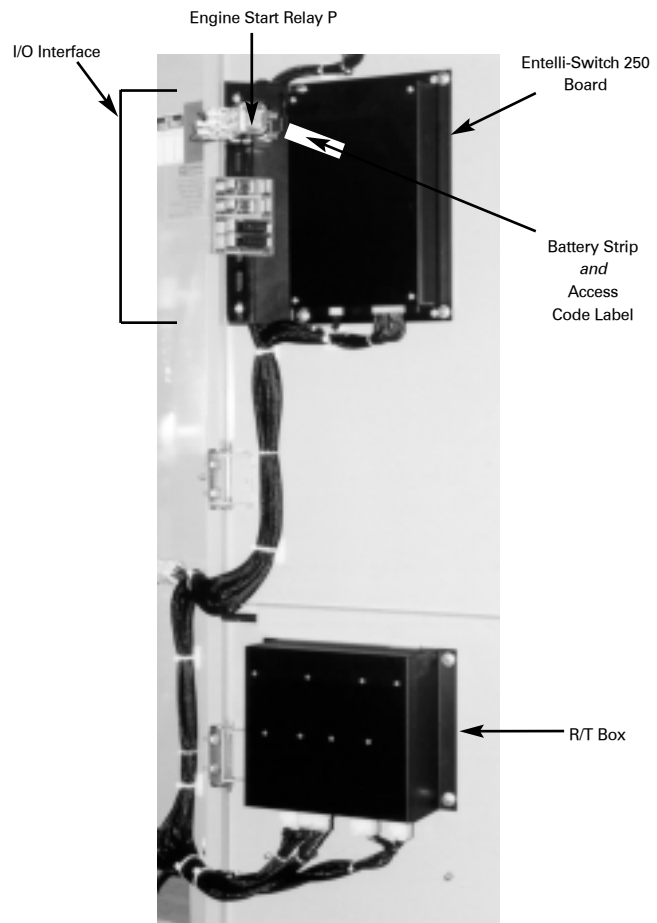

Figure 6
- A. Entelli-Switch 250 Board - Customer Input and Output (I/O) for system interface. Located on the left hand side of the back of the unit (see figure 6)
- II. The **R/T box** (relay transformer box) contains the following: (see figure 6)